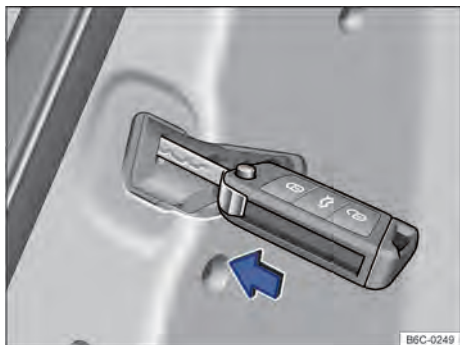

Fig. 58 On the doors, front right and rear: emergency locking of the vehicle with the metallic stem of the key.
- Insert the metal shaft of the wrench into the slot → Fig. 58 and press.